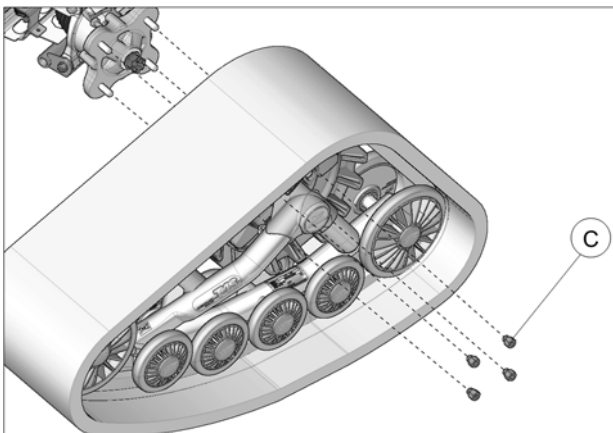

Fig. 10
10. Secure undercarriage to rear hub using the wheel nuts (C) provided. See Fig. 10